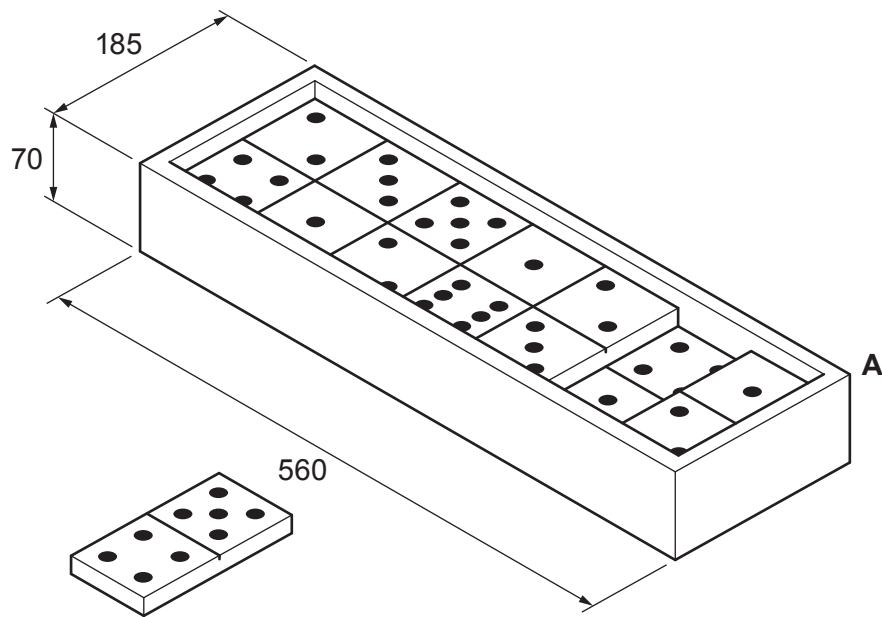

Fig. 12.1
- 12 Fig. 12.1 shows a box of giant dominoes used by young children. The dominoes are made from 10 mm thick MDF and the box from 15 mm thick hardwood.